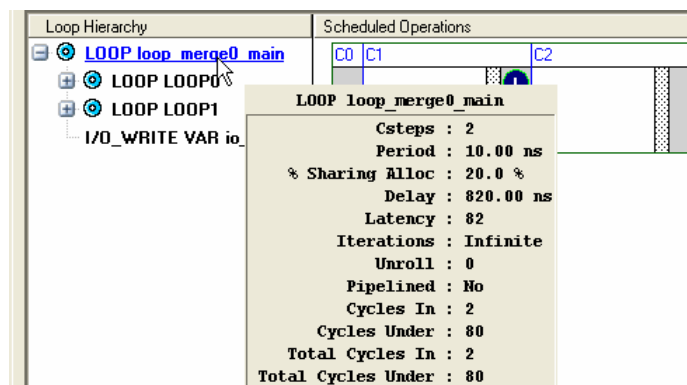

Figure 12 Disable Loop Merging
- ✓ Click on the Schedule button to bring up the Gant chart (Figure 12). You can see both loops are scheduled